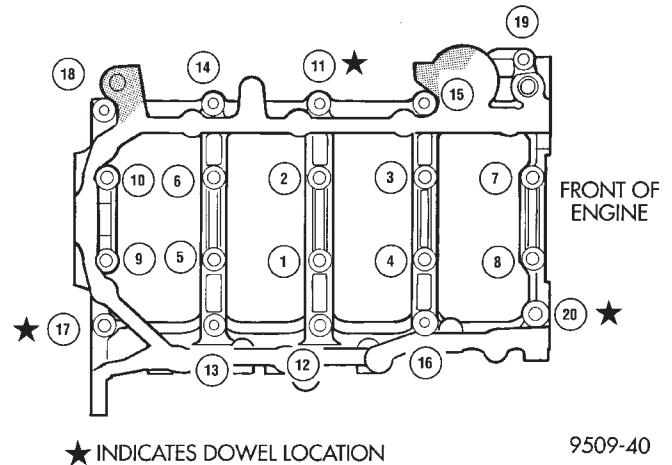

Fig. 106 Main Bearing Caps/Bedplate Torque Sequence
(5) Install lower main bearings into main bearing cap/bedplate. Make certain the bearing tabs are seated into the bedplate slots. Install the main bearing/bedplate into engine block.
(6) Before installing the bolts oil threads with clean engine oil, wipe off any excess oil.
(7) Install main bearing bedplate to engine block bolts 11, 17 and 20 finger tight. Tighten this bolts down together until the bedplate contacts the cylinder block. Torque bolts to 30 N·m (22 ft. lbs.) (Fig. 106).
(8) Install main bearing bedplate to engine block bolts (1 – 10) and torque each bolt to 81 N·m (60 ft. lbs.) in sequence shown in (Fig. 106).
(9) Install main bearing bedplate to engine block bolts (11 – 20), with baffle studs in positions 12, 13 and 16 and torque each bolt to 30 N·m (22 ft. lbs.) in sequence shown in (Fig. 106).
(10) After the main bearing bedplate is installed, check the crankshaft turning torque. The turning torque should not exceed 5.6 N·m (50 in. lbs.).
(11) Install oil pump. If crankshaft end play is to be checked refer to service procedures in this section.
(12) Install crankshaft sprocket.
(13) Install oil pan.